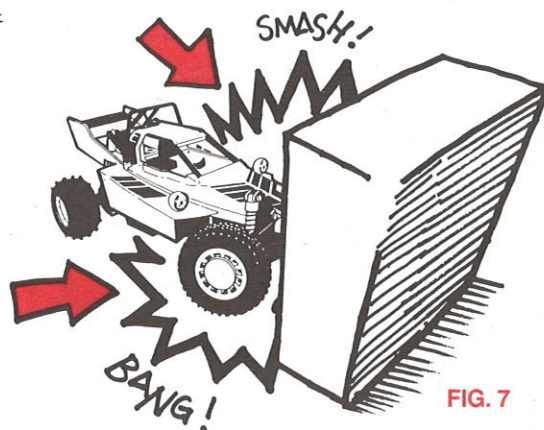

FIG. 7
- 3) Do not apply throttle when your car is in a stalled condition, such as blocked by a heavy object. Continued application of power will result in a burned out motor or speed control. **FIG. 7**